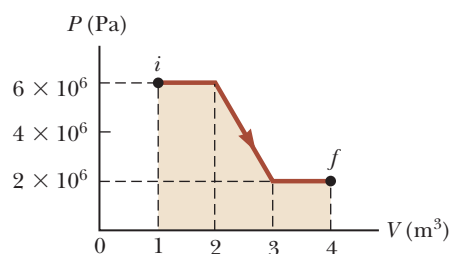

Figure P20.28
28. (a) Determine the work done on a gas that expands from  $i$  to  $f$  as indicated in Figure P20.28. (b) **What If?** How much work is done on the gas if it is compressed from  $f$  to  $i$  along the same path?